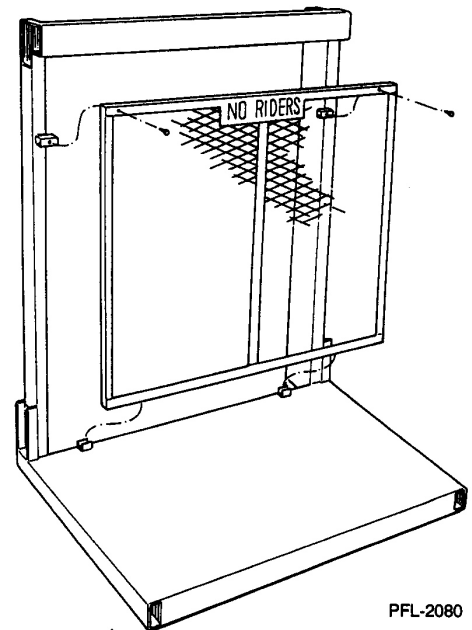

Figure 8
1. Remove the rear panel from the carriage to allow easier access to the columns. See **Figure 8**.